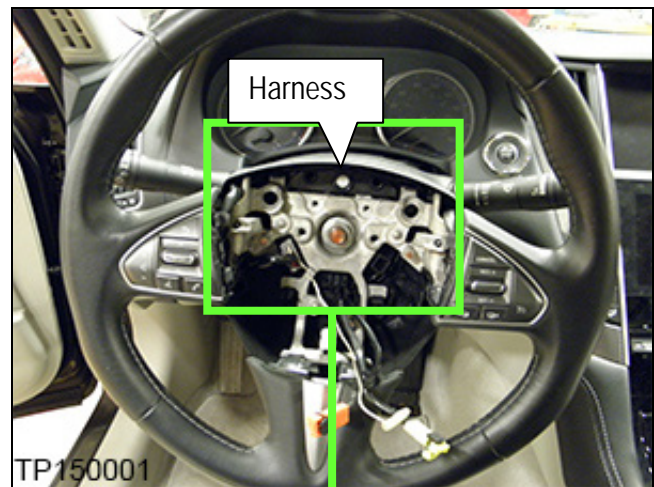

Figure 1
2. Remove the driver's side air bag (Figure 1).